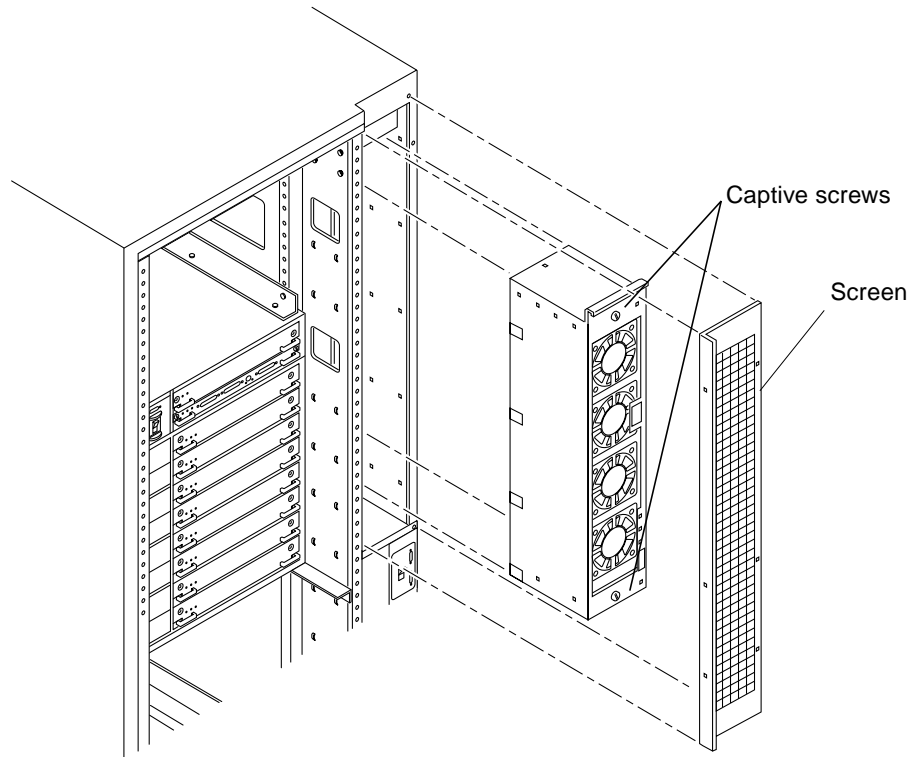

FIGURE E-1 Replacing the Fan Tray Assembly in the Enterprise 6500/5500 Systems
You must remove the fan tray screen (FIGURE E-1) to reach the assembly.
2. Loosen the two captive screws on the fan tray assembly (FIGURE E-1).
3. **Tighten the two captive screws at the top and bottom of the fan tray (FIGURE E-1).**